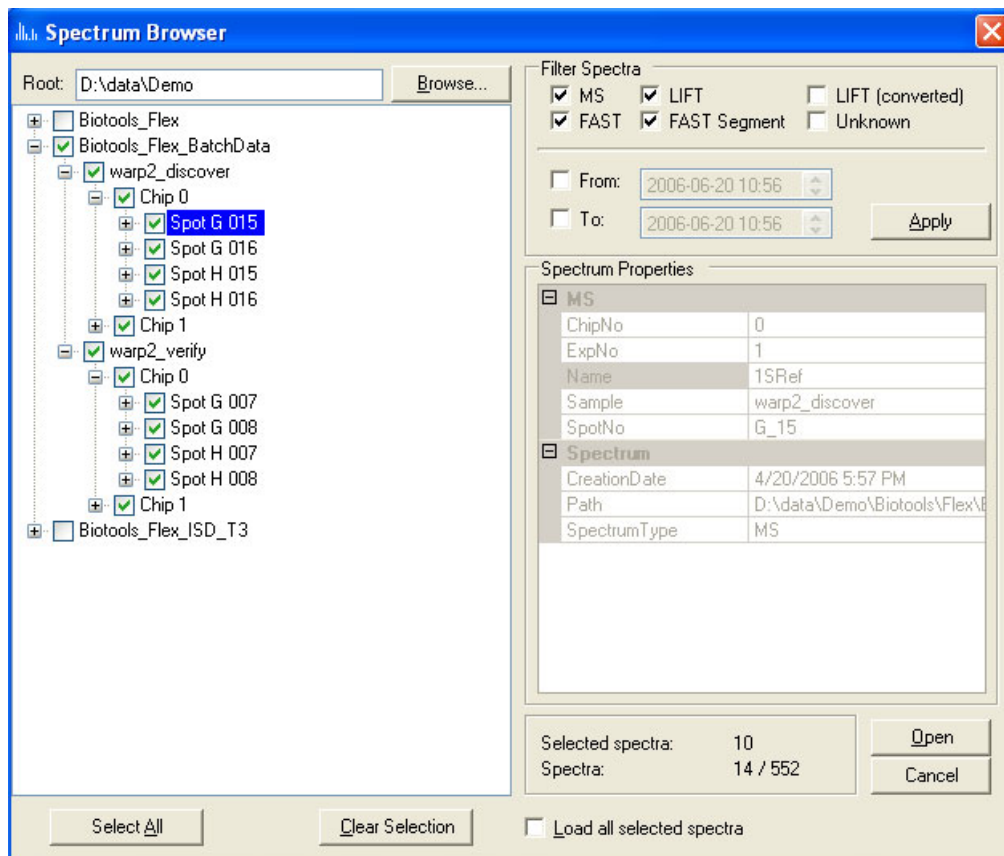

Figure 12 Spectrum Browser
- **Filter Spectra:** Select checkboxes to filter the data type you want to open. A tree structure on the left side of Figure 12 appears, if the data structures correspond to the flexControl saving convention. If the saving convention is not applied select the checkbox “Unknown” to let the data appear.
If you want to open a large number of spectra in the **flexAnalysis** treeview without loading them all at once, you may open them with the Spectrum Browser (**Open** command, Figure 12). In this dialog you will find the checkbox 'Load all selected spectra' at the bottom. For loading a lot of spectra the checkbox should not be activated. Otherwise, if you only want to load few spectra at once, activate this box.